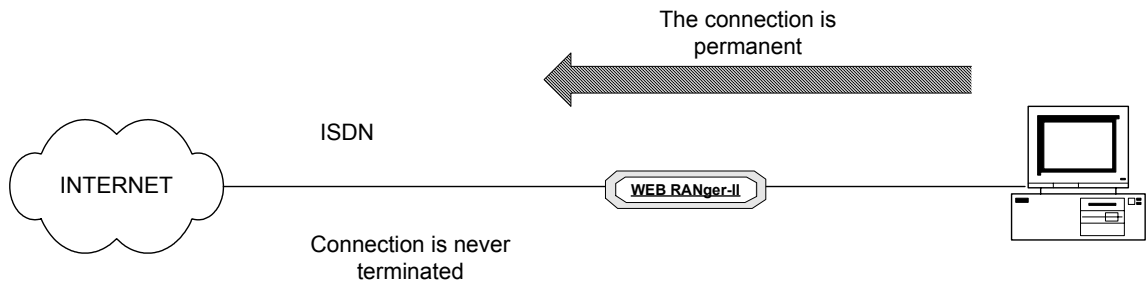

Figure 4-88. Permanent Connection
- Terminate Connection is *never* (see Figure 4-88).